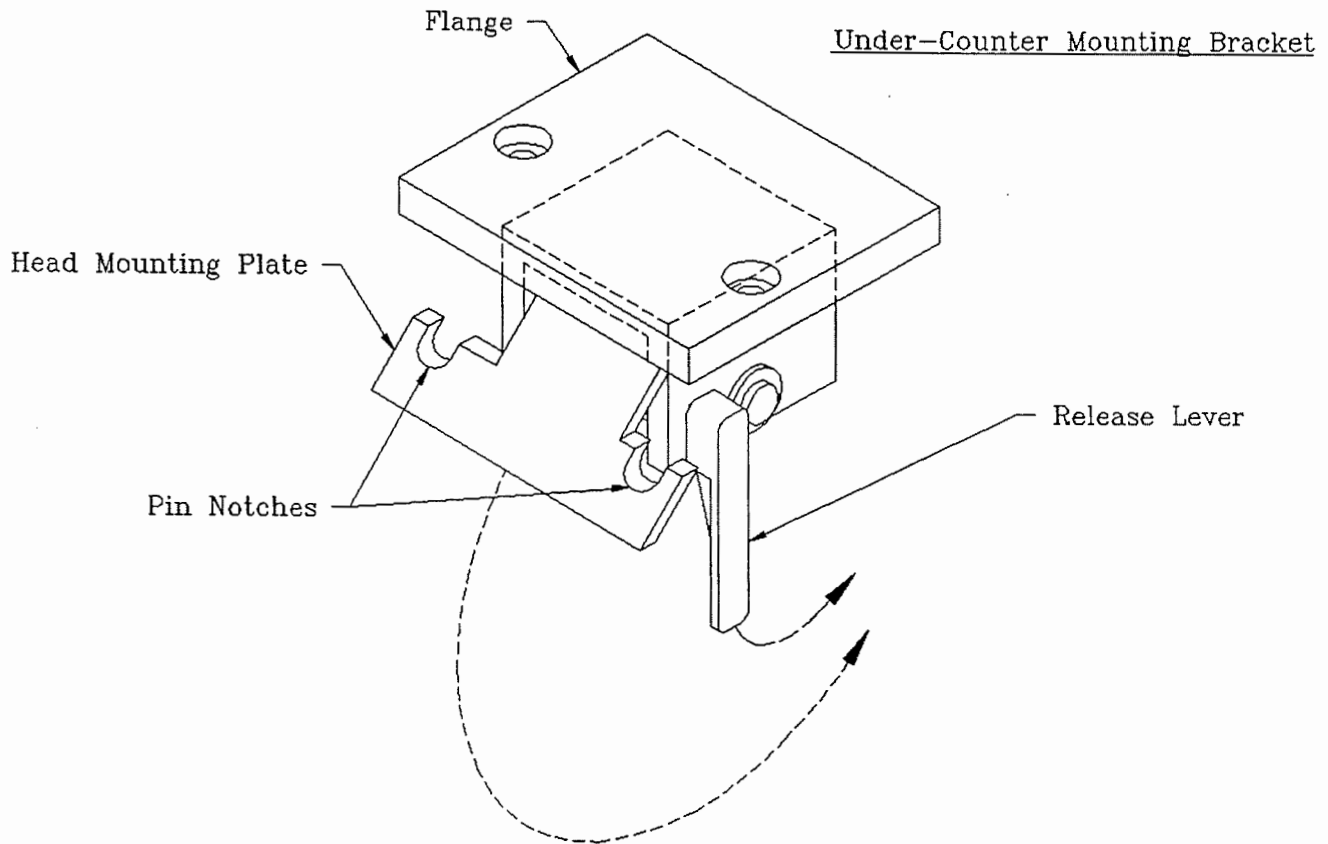

Figure 9
C) Once the under counter mounting bracket is mounted, check its operation as follows (see fig 9):